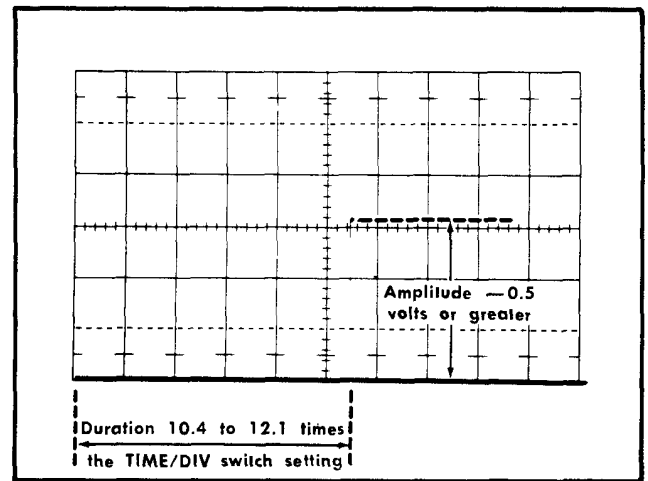

Fig. 5-21. Typical test oscilloscope display when checking the gate output signal. Vertical deflection, 0.2 volts/division; sweep rate, 2 milliseconds/division.
- d. CHECK—Test oscilloscope display for 2.5 divisions or greater amplitude with the top of the waveform at the zero volt level. Gate duration should be 5.2 to 6.05 divisions (−0.5 volt or greater amplitude with duration of 10.4 to 12.1 times the TIME/DIV switch setting; see Fig. 5-21).